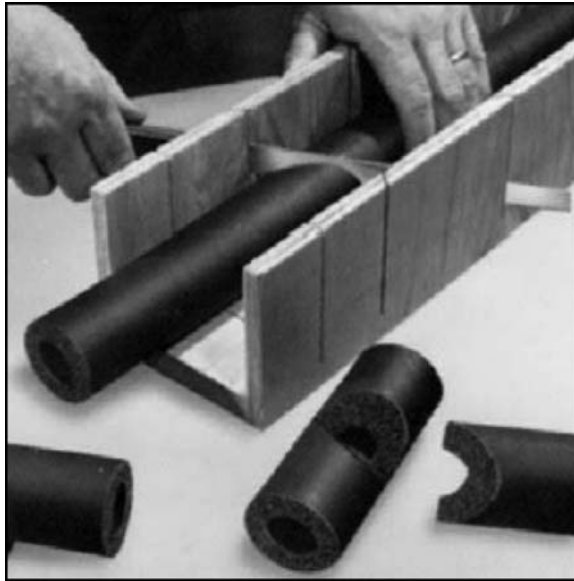

FIG. 1 USE Miter Box For Making Cuts
8.4 Use miter boxes or templates for making accurate cuts. See **Fig. 1**. Keep to correct dimensions. Do not cut the insulation short and stretch it to fit the space.